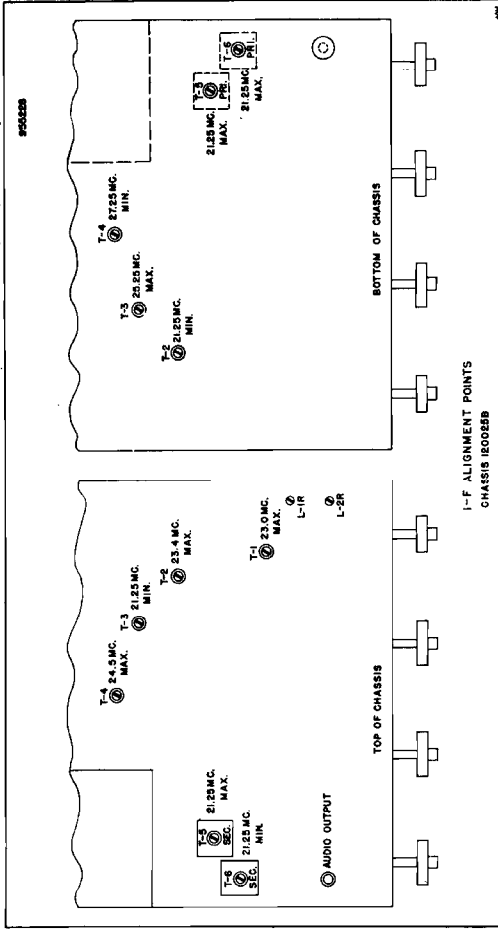

Figure 5-6—Location of Alignment Points—Chassis 120025B
- Refer to figure 5-6 for all alignment points.